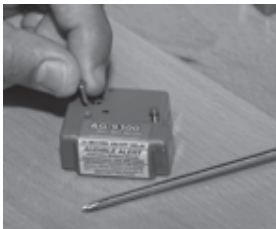

Fig 11
1. Remove the #2 screw from the top of the AG-9300 control box (fig 11).